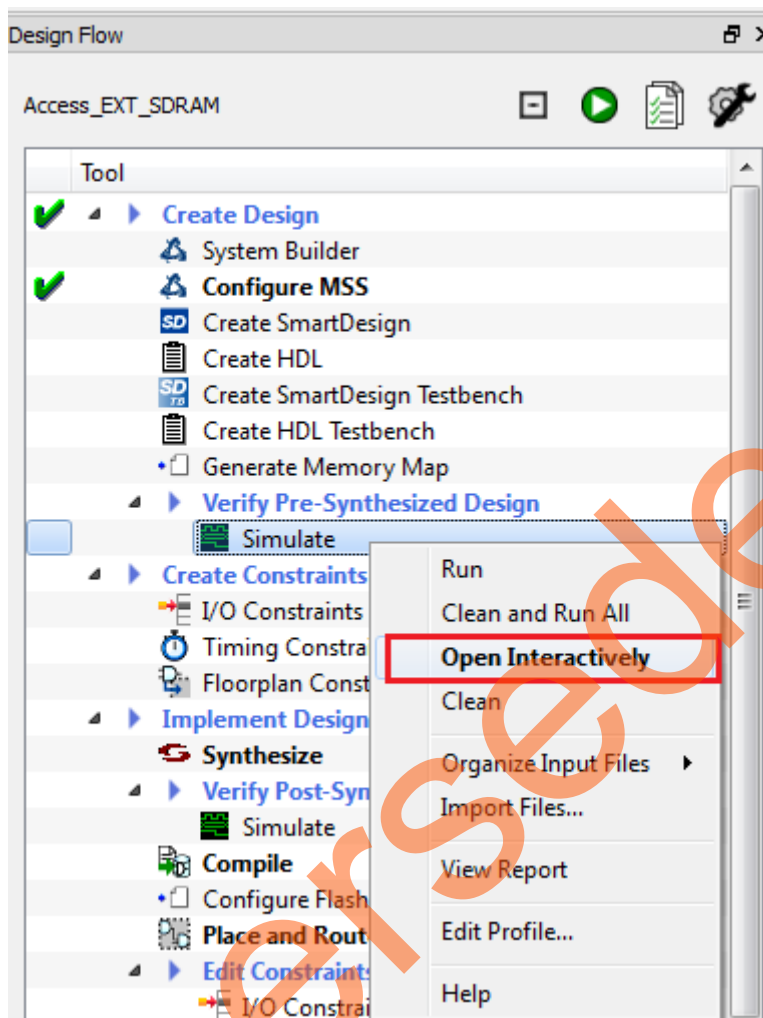

Figure 38. Invoke ModelSim
8. After specifying the testbench stimulus file, expand **Verify Pre-Synthesized Design**, right-click **Simulate**, and select **Open Interactively** to invoke ModelSim, as shown in Figure 38. ModelSim is invoked and the design is loaded.